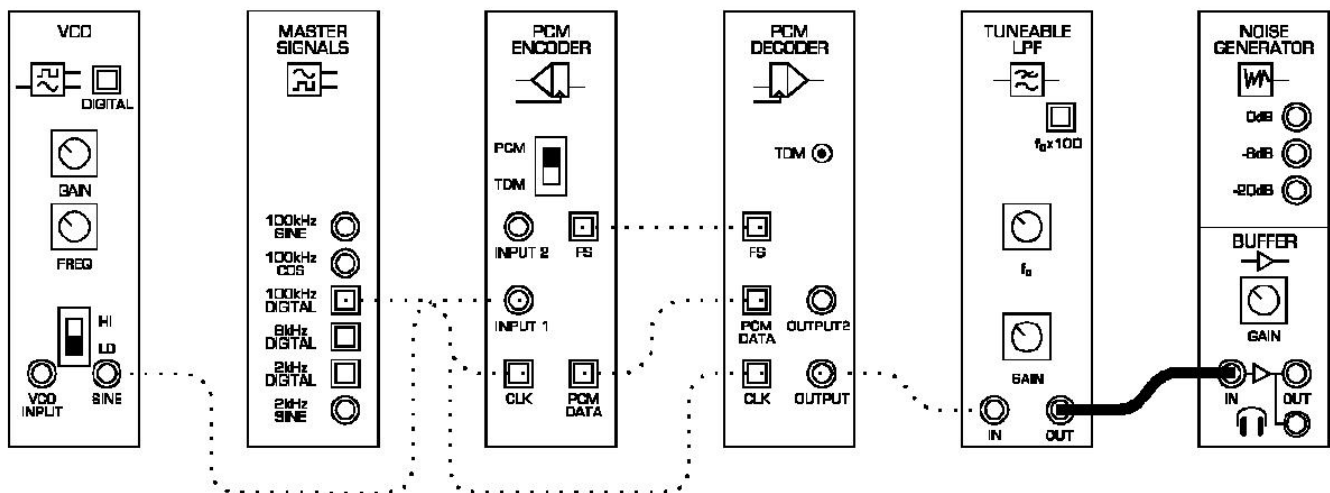

Figure 14:
6. Add the Buffer module to the set-up as shown in Figure 14 leaving the scope's connections as they are.